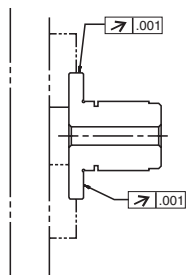

Figure 1
- Chuck on flange of hub and align as illustrated (Figure 1).